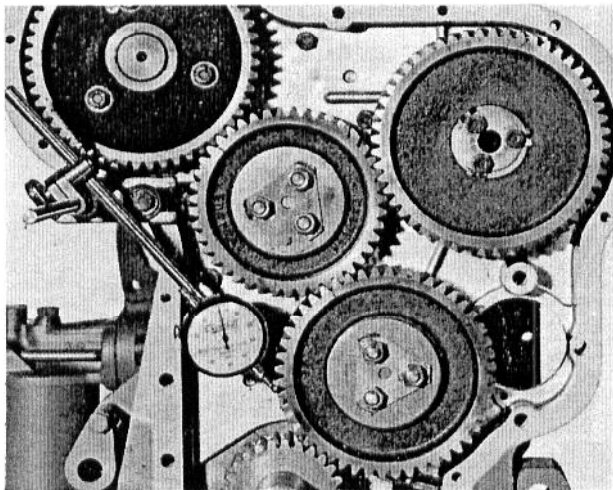

Fig. 16 - Measuring Timing Gear Backlash
2. Check backlash between gears, using a feeler gauge or dial indicator, as shown in Fig. 16. Backlash between any two gears should be between .003-.006".
4. Also, check the backlash between the crankshaft gear and the oil pump idler gear as shown in Fig. 16. Correct clearance is .012"-.018".